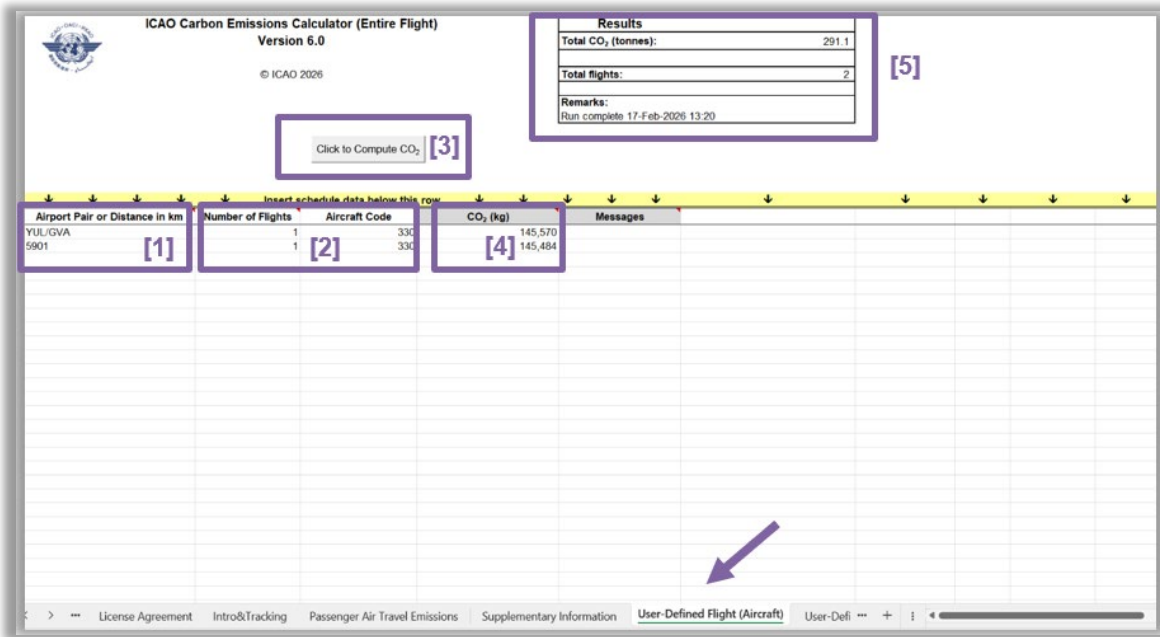
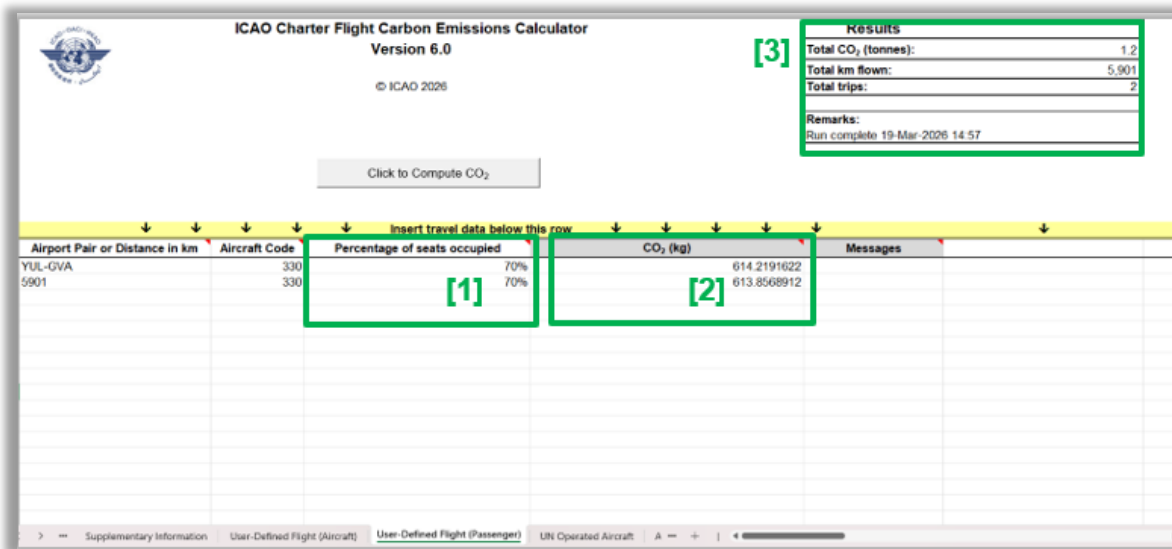

Figure 8: User Defined Flight (Aircraft) Tab.
Figure 9. User Defined Flight (Passenger) Tab.
The User Defined Flight (Aircraft) tab can be used to calculate CO₂ emissions for the whole aircraft. In the User Defined Flight (Aircraft) tab (see Figure 8), follow the steps below:
- i. Enter either a valid airport pair (for example, YUL/GVA) or the trip distance in kilometres (for example, 5901 km) starting in cell A15 (see [1] area in Figure 8).
- ii. Enter the number of flights and aircraft codes in cells B15 and C15, respectively (see area [2] in Figure 8).
- iv. Click the “Click to Compute CO₂” button to calculate the CO₂ emissions for the entire flight (see area [3] in Figure 8).
- v. The CO₂ emissions results are then displayed in column D (see area [4] in Figure 8).
- vi. The Summary of the Results, in terms of generated inventories, is displayed at the top of the page (see area [5] in Figure 8).
The User Defined Flights (Passenger) tab (see Figure 9) works similarly to the User Defined Flight (Aircraft) tab described above (see Figure 8), with one key difference: the user can enter the percentage of seats occupied (Load factor) in column C (see [1] area in Figure 9). The CO₂ emissions results, calculated for one passenger on the flight, are displayed in the results column (see [2] area in Figure 9). The Summary of the Results in terms of inventories generated is displayed at the top of the Page (see [3] area in Figure 9).